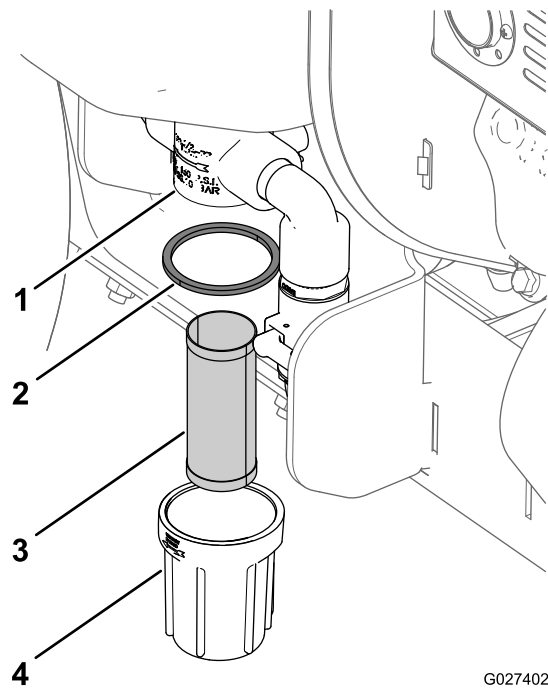

Figure 65
4. Rotate the strainer bowl counterclockwise and remove the bowl and screen from the body of the strainer (Figure 65).
7. Install the screen into the strainer body (Figure 65).
8. Install the gasket and strainer bowl onto the strainer body, and hand tighten the bowl (Figure 65).